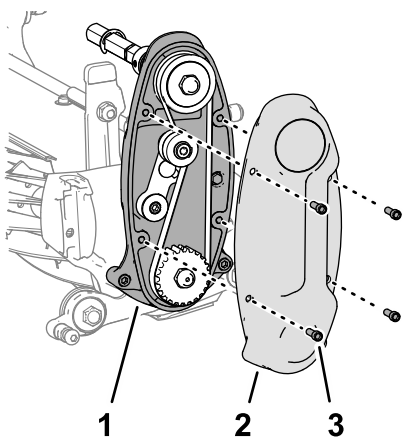

Figure 18
- 5. Assemble the cover to the reel-drive housing (Figure 18) with the 4 socket-head screws (1/4 x 3/4 inch).